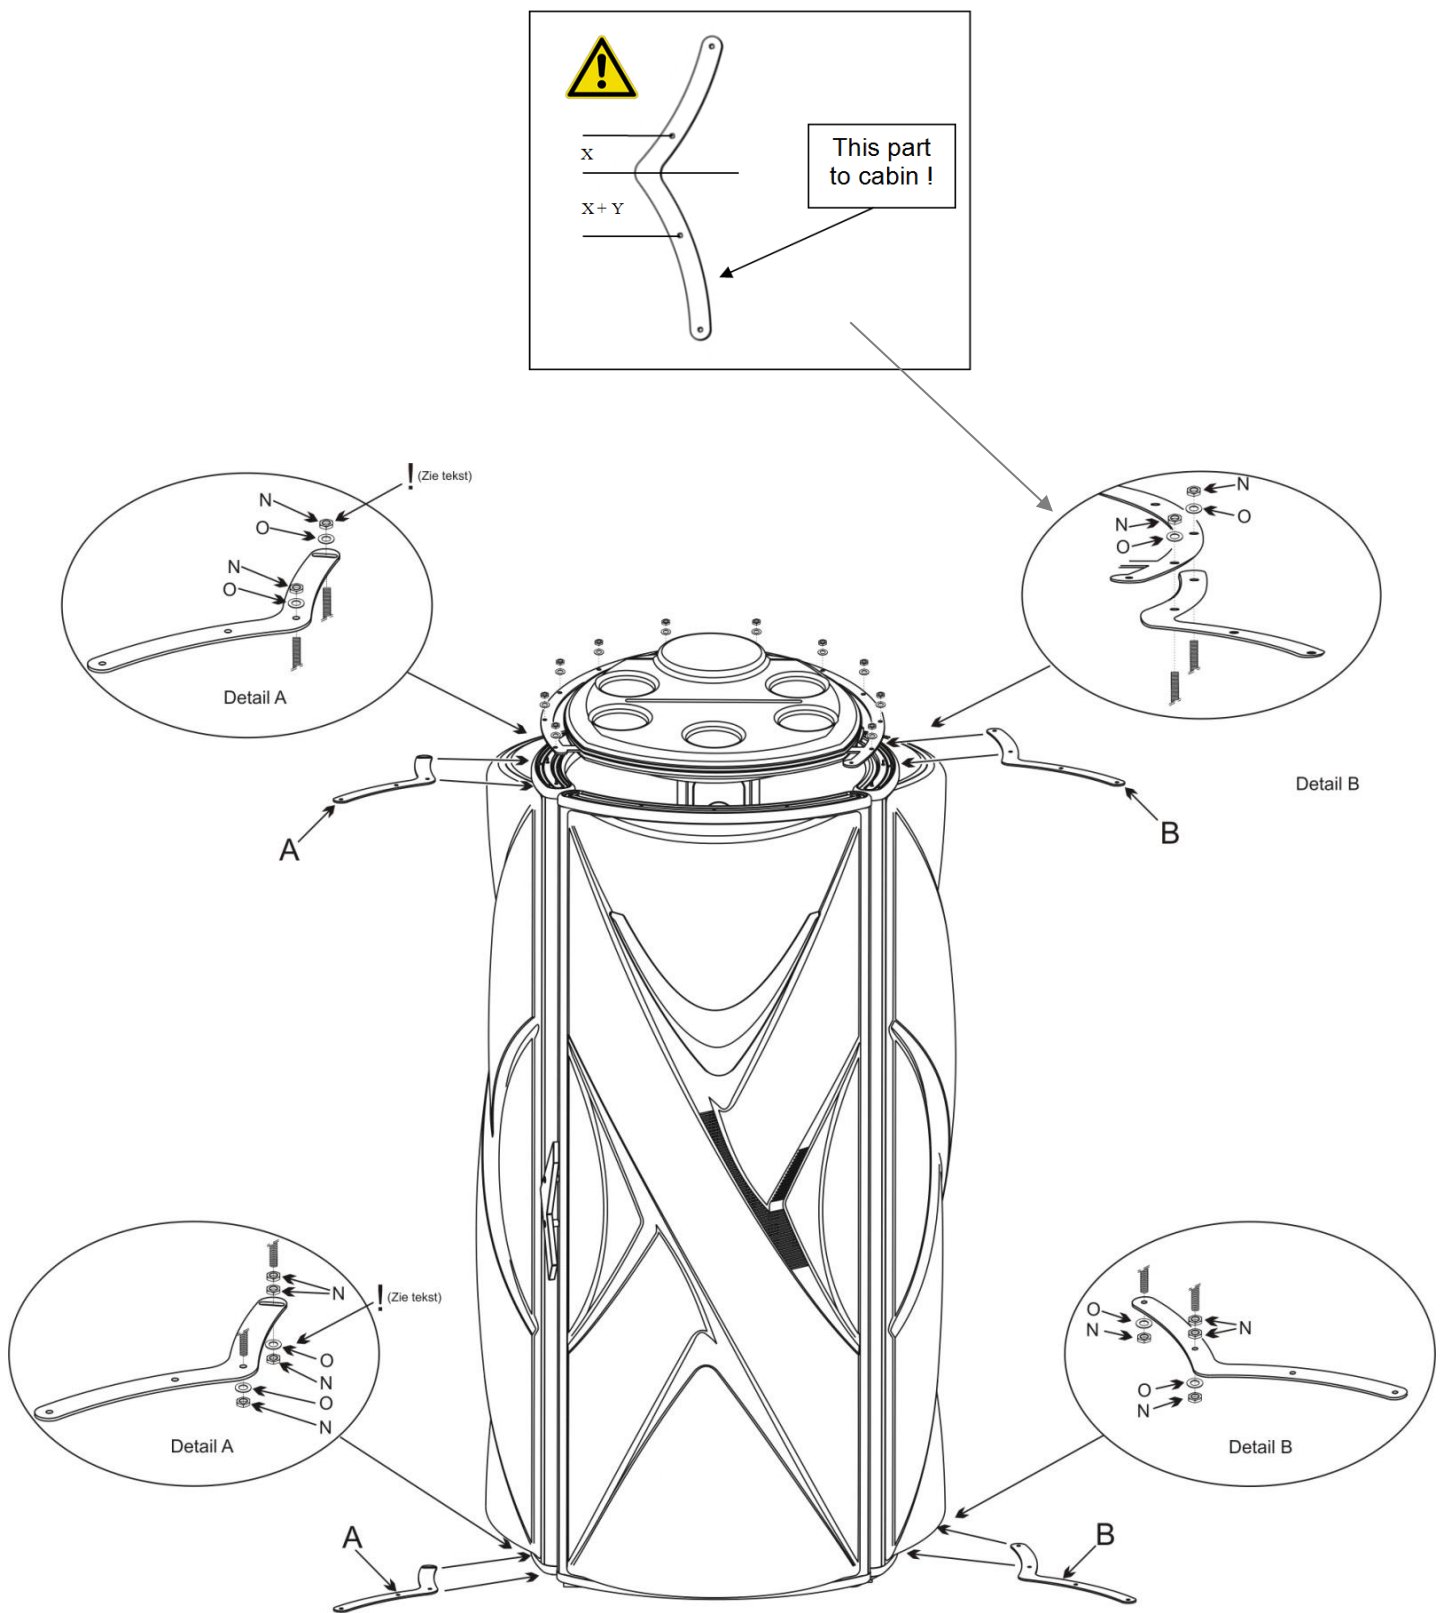

Fig.1
Fig.1 : To assemble the changing cubicle to the sunbed, the shackles (A) and (B) need to be assembled like indicated. The drawings “detail A” and “detail B” show the right position. (Attention: shackle (A) can be recognised by the slotted hole). Bolt (P) and nut (N) have been accentuated with exclamation marks in the detail of Fig. A. For now, these should not be fastened.